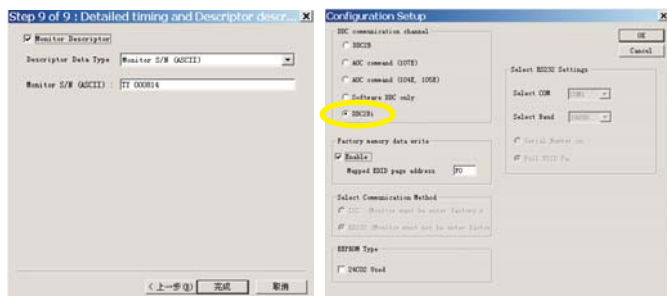

Fig. 39
8. Click Next , bring up Fig. 39.